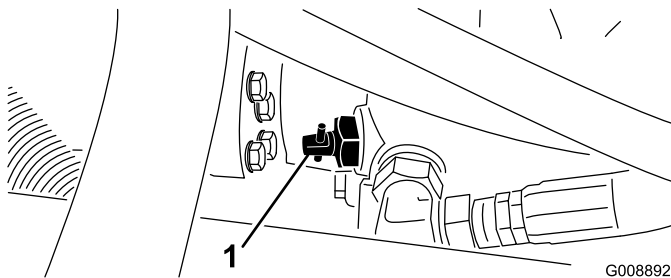

Figure 38
1. Locate the bypass valve on the pump (Figure 38) and rotate it 90°.